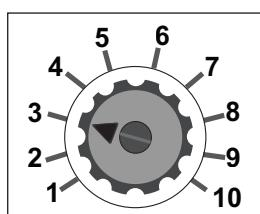

Figure 4: Run Time Dial
3. Adjust the run time dial using the Pump Sizing and Dial Setting guide. See Figure 4.